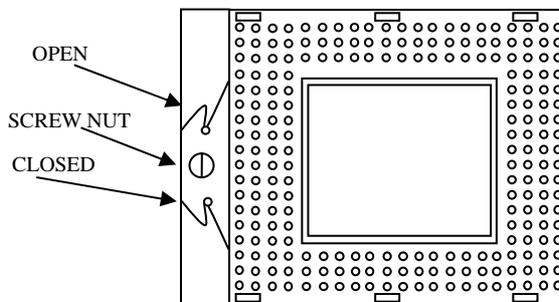

Figure 1:CPU Socket
1. Check and confirm that you are going to install correctly CPU type and pin numbers(Figure 1)